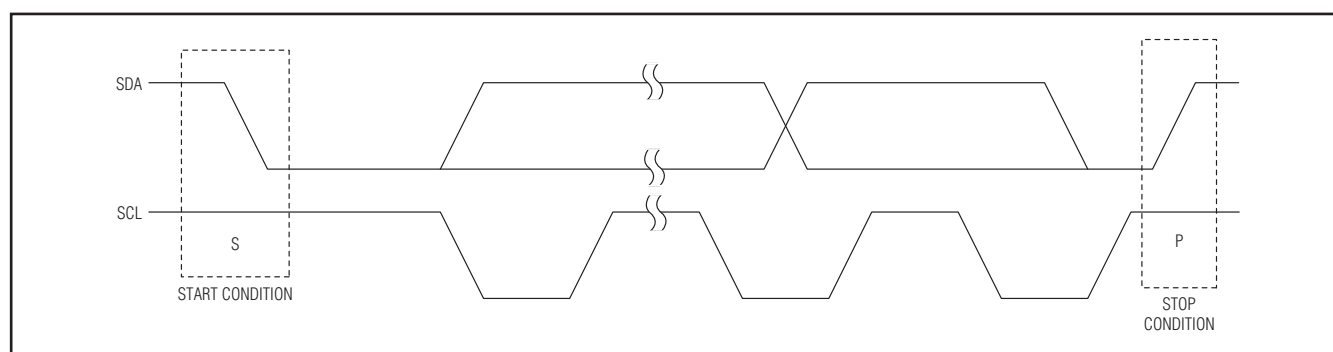

Figure 3. START and STOP Conditions
Each transmission consists of a START (S) condition sent by a master, followed by a 7-bit slave address plus a NOP/ $\overline{W}$ bit. See Figures 3, 4, and 7.